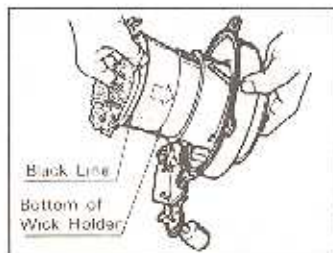

Fig. 19
- (11) Fold the new wick and puts it into the wick holder with the glass fiber portion pointing up. Align the black line marked on the tape with the bottom of the wick holder. Smooth the wick in the holder over the wick holding pawls (Fig.19)